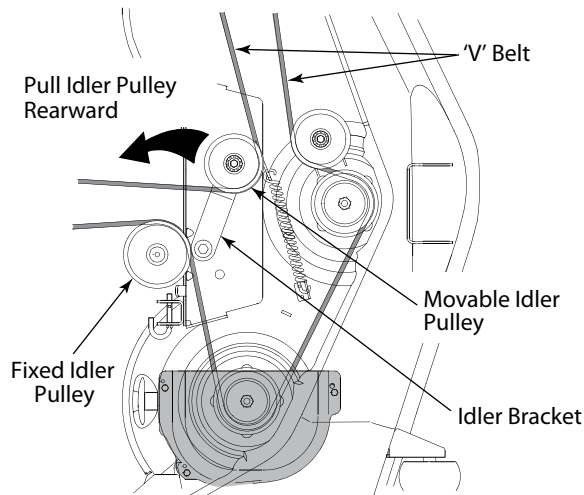

Figure 7-3
- Working from the middle of the tractor, pivot the idler bracket and movable idler pulley rearward away from the backside of the 'V' belt just far enough to lift the belt up and over the idler pulley. See Figure 7-3.
- Route the backside of the belt around the fixed idler pulley of the deck. Refer to Figure 7-3.
- Working from the middle of the tractor, pivot the idler bracket/movable pulley rearward against the spring tension and slide the backside of the belt onto the movable idler pulley. Refer to Figure 7-3.
- Make certain the belt is in the spindle pulleys of the deck, and that the backside of the belt is against both the fixed and movable idler pulleys. Refer to Figure 7-3.